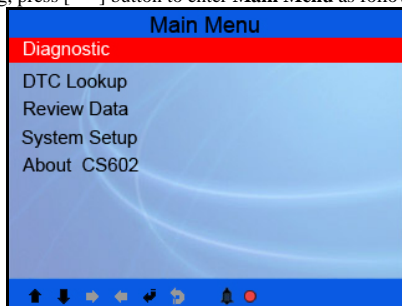

Figure 4-2
- 5) After finishing, press [] button to enter **Main Menu** as following figure 4-2: